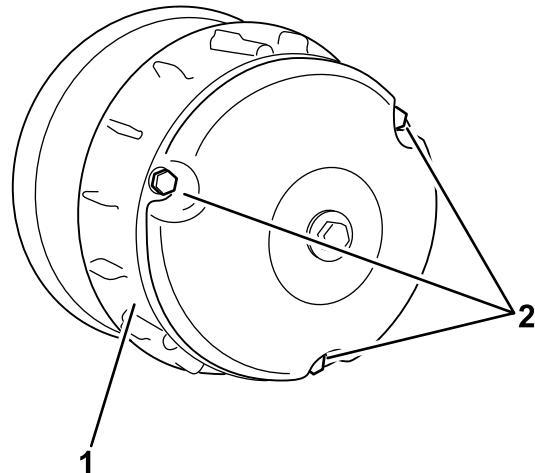

Figure 50
2. Remove the 3 bolts securing the cover to the clutch, and remove the cover (Figure 50).
4. Install the clutch cover and secure it with the 3 bolts (Figure 50) that you removed in 2.